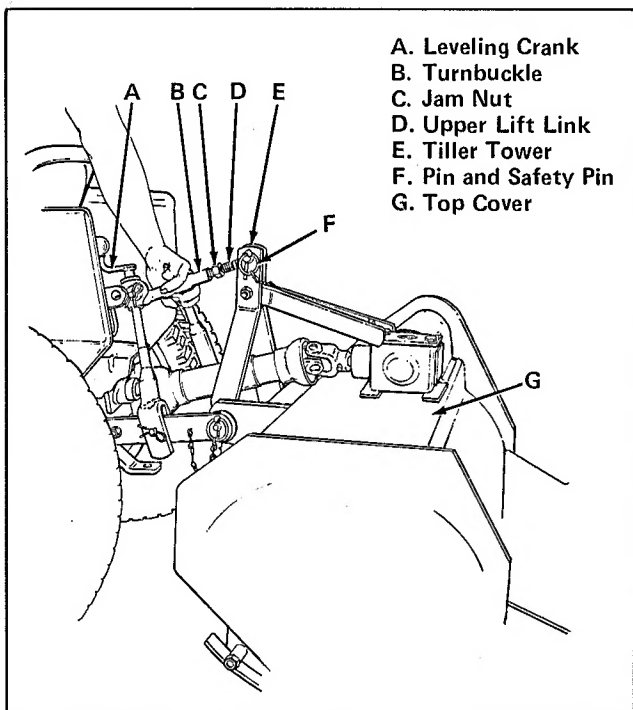

Figure 4. Attach Upper Link
8. Attach upper lift link (item D, figure 4) to tiller tower (item E). Secure the upper lift link with the combination pin and safety pin (item F).
2. Remove combination pin and safety pin (item F, figure 4) and detach upper lift link (item D) from tiller tower (item E). To prevent loss, reinstall pin and safety pin in hole of upper lift link.